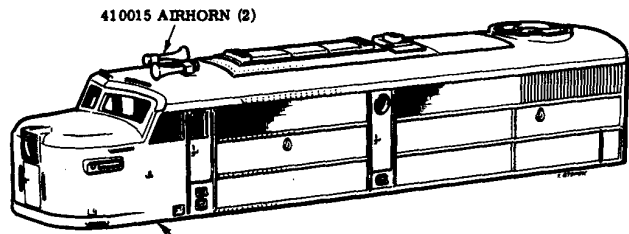

FIG. 1
- 2) Unsolder wire connections at corners of 410013 Terminal Board. These are identified in Fig. 1 as A-B and C-D for the front and rear trucks respectively.
- 3) See truck assembly in Fig. 1 for location of inboard truck frame latch. Use small screwdriver to spring latch away from gearbox then swing frame upward. Latch at opposite (coupler) end will disengage allowing frame to be removed.
CAUTION! When replacing damaged couplers use only the 410017 Coupler & Spring Set specified in Fig. 1. Couplers and springs used on other Atlas diesels may not work as freely because of slight dimensional differences. Also, be certain to install new coupler right side up. Once installed, a coupler cannot be removed except by clipping off its head.